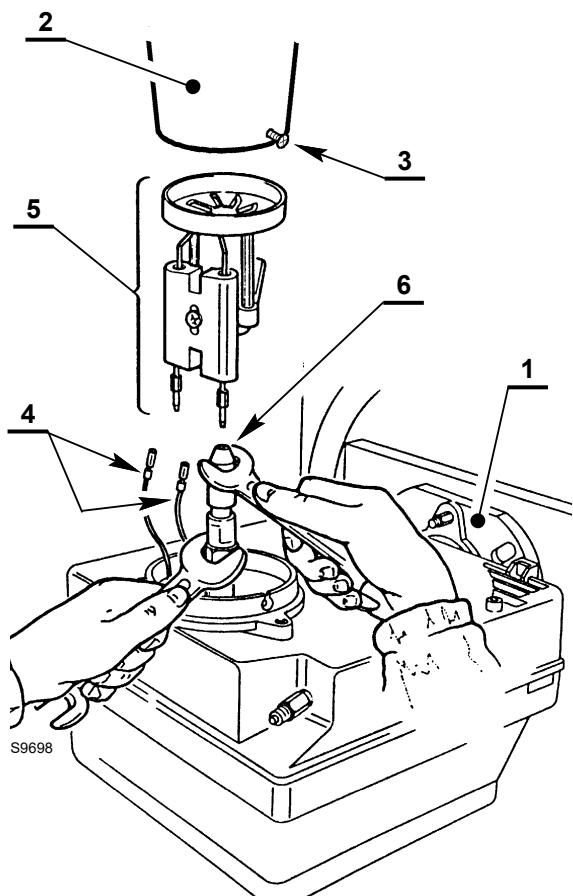

Fig. 13
2nd Method (Fig. 13):
- Replace and correctly screw in the nozzle 6), tightening it as shown in Fig. 13.